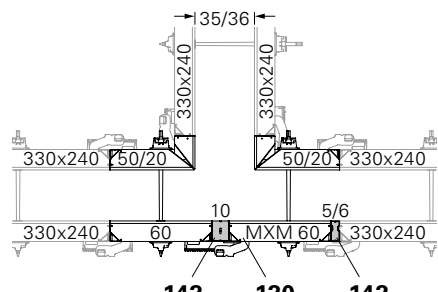

Fig. C4.06
- Wall thickness 35/36: Fig. C4.06